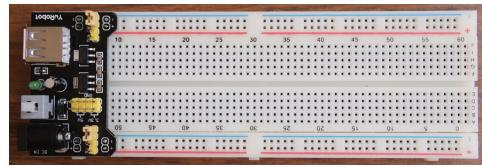
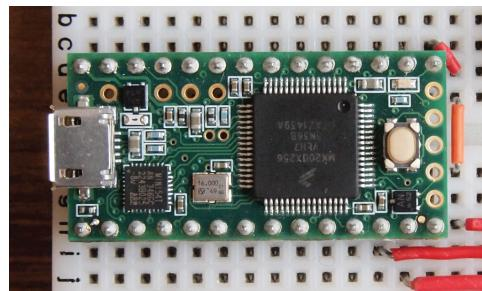

Figure 4: MB102 breadboard with the power supply module mounted.
Figure 6: Teensy 3.1 micro-controller (mounted on the edge of a breadboard).
**Note:** The above experiment is meant to teach you the basics of voltage regulation. From this point on, you may use the power supply module (Fig. 4) together with the battery pack (Fig. 6) to provide regulated power. The power supply module takes input power from either the adapter port or the USB port. It produces two regulated output, one around 5 V and the other around 3 V, through two linear regulators. A push button switch is available to turn on and off the power output. If you are not using the power supply module, it is recommended that you put the jumpers to the off position.